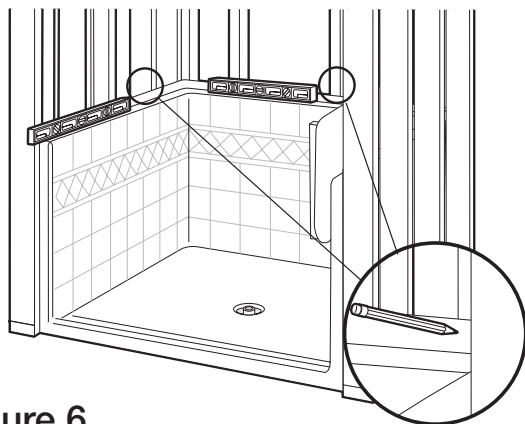

Figure 6
5. Tap down on the base until level. Mark studs on all sides. Draw a line on the floor across the front of the unit threshold. **See figure 6.**